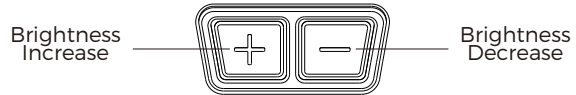

Fig 6
1. Switch ON: Momentarily press either brightness button ("+" or "-") to turn on the sight. (See Fig. 6)